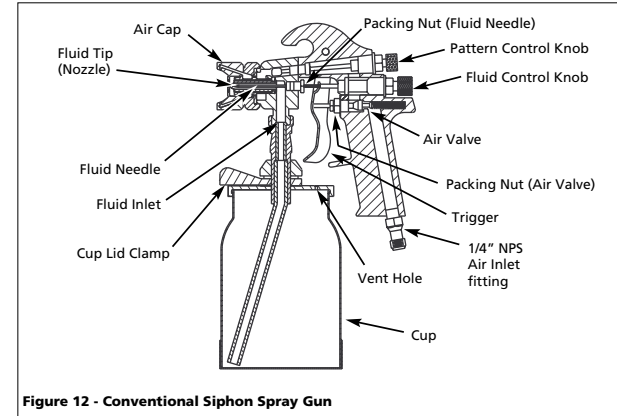

Figure 12 - Conventional Siphon Spray Gun
5. Unscrew packing nuts and replace the packing **ONLY** if a leak will not stop when the nut is tightened (See Figure 12). Do not over-tighten a packing nut because this will restrict movement of the needle.